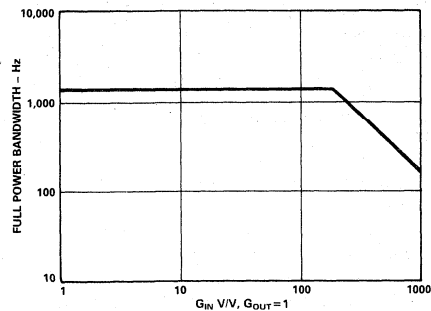

Figure 10. Typical AD295 - Full Power Bandwidth vs. Gain
**Full Power Bandwidth vs. Gain:** Figure 10 illustrates the full power bandwidth vs. gain for the AD295. A 1.4kHz full power response is possible with gain up to 100V/V.